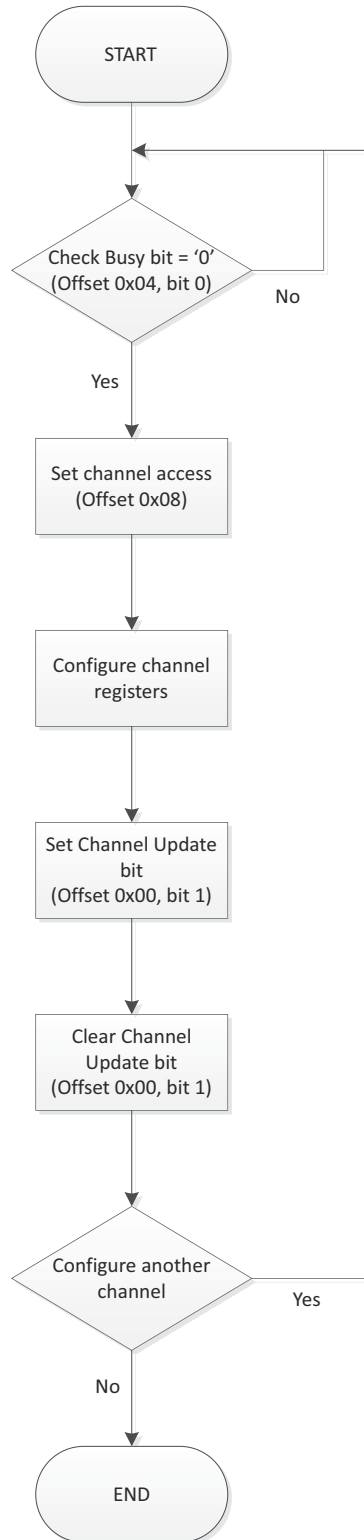

Figure 2-4: Configuration of Channel Registers Flowchart
5. Repeat steps 1-4 for another channel. See Figure 2-4.
This register is used when accessing channel space registers. Always set the channel first as shown in Figure 2-4.